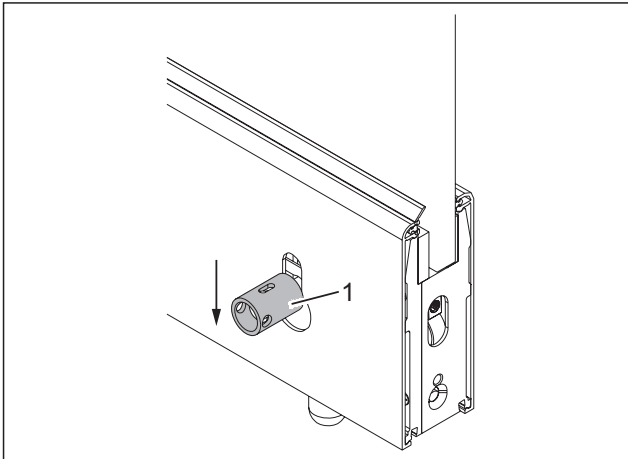

Fig. 27 Removing the sleeve
4. Press the sleeve (Fig. 27/1) into the floor strike.